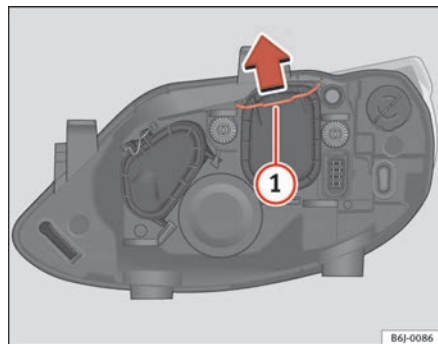

Fig. 146 Dipped head-lights
- Move the loop ⇒ fig. 146 ① in the direction of the arrow and remove the cover.